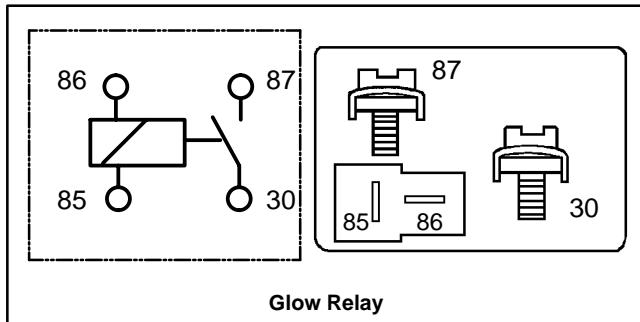

Figure 13
A. For the **glow** relay (Bosch #0 332 002 150), resistance should be from 41 to 51 ohms (Fig. 13).